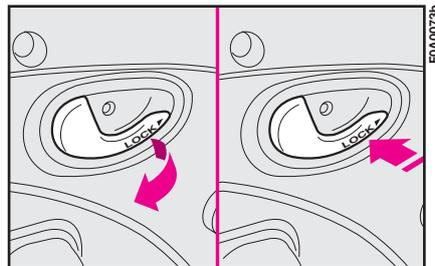

fig. 111
**Opening:** pull the opening lever **fig. 111** and make the door slide backward to the stop limit catch.
**Closing:** close the door making it sliding forward, then press once the lever at “LOCK” as shown in **fig. 111**.